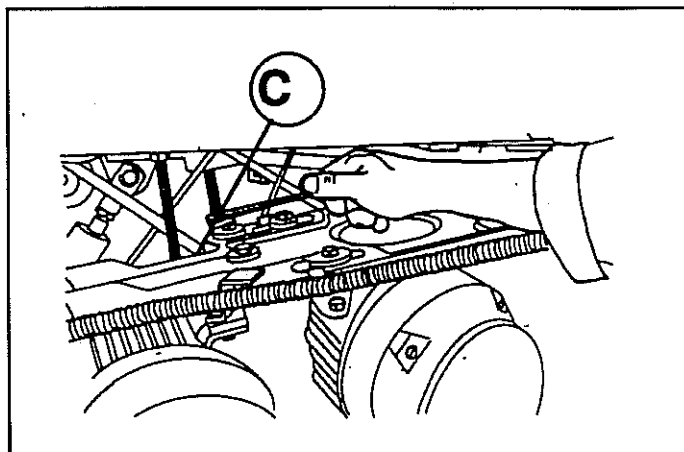
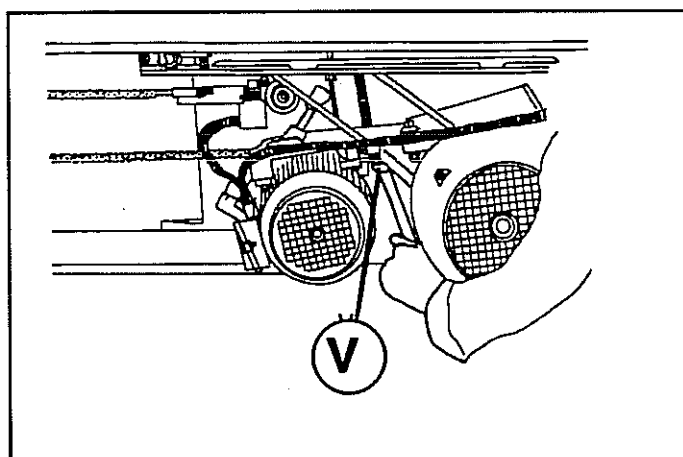

Fig.5.5
Fig.5.6
- Loosen the lock nut (C fig.5.5) and regulate the adjusting screw (V fig.5.6) to pull the belt to an optimum.
- Lock the lock nut (C fig.5.5).